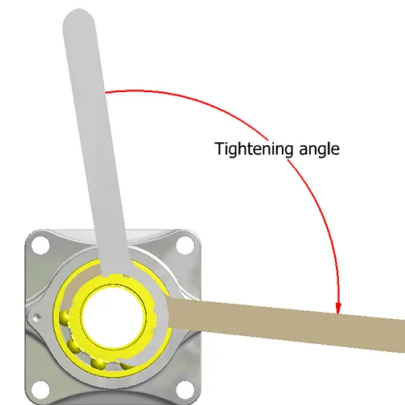

Fig. 3
10. Put some grease on the locking nut. (figure 3)